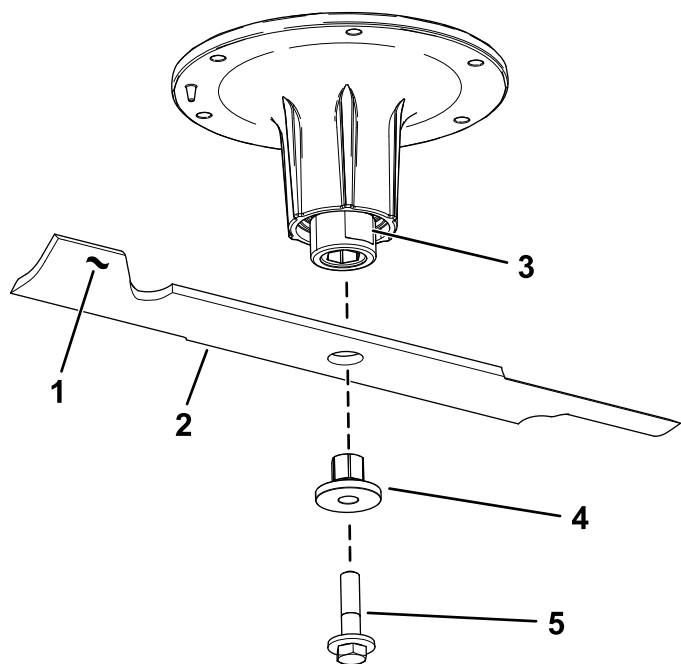

Figure 87
2. Remove the blade bolt, bushing, and blade from the spindle shaft (Figure 87).